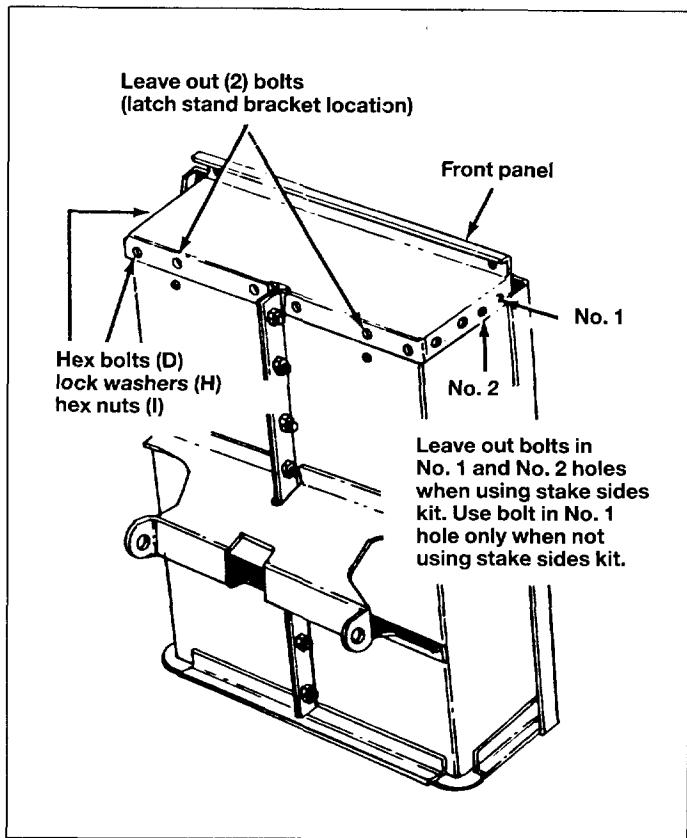

Fig. 8
13. Assemble front panel to open end of cart body, using  $1/4'' \times 1/2''$  (6 mm  $\times$  12 mm) hex bolts (D), lock washers (H) and hex nuts (I). Bolt heads to inside of cart. See figure 8.
N.B. Do not assemble bolts in No. 1 or No. 2 holes when using optional stake sides kit (each side). See figure 8.